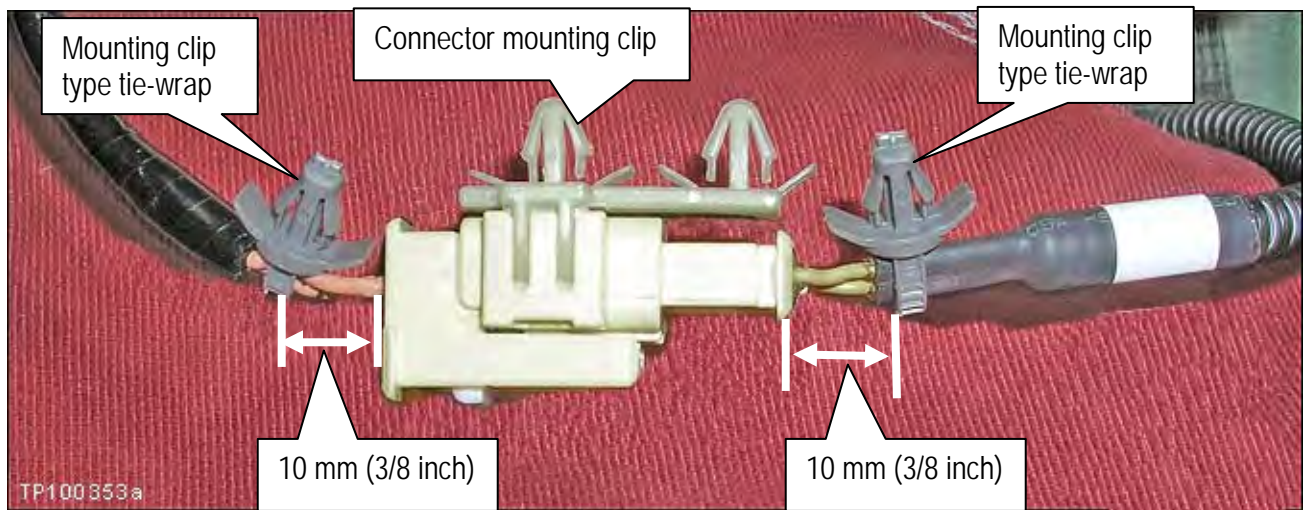

Figure 5a
7. Reinstall the connector mounting clip (see Figure 5a).
8. Install 2 "mounting clip type" tie-wraps as shown in Figure 5a.